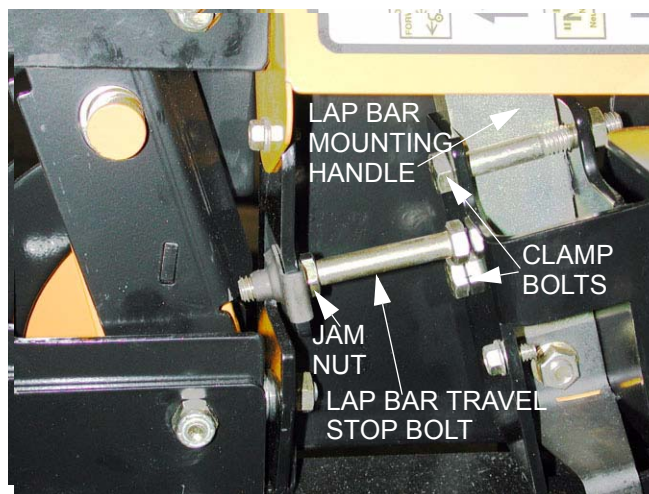

Figure 3.17
- 3.17. After neutral control is correctly adjusted, set the travel stops to achieve correct tracking and adjust the lap bars for operator comfort. See Figure 3.17.